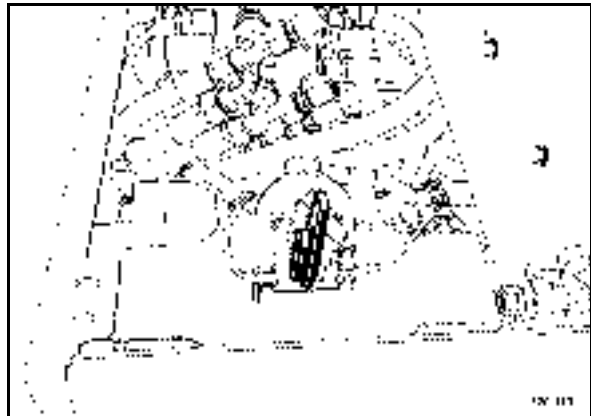

Fig. 38
- Switch on the main battery switch (Fig. 38).